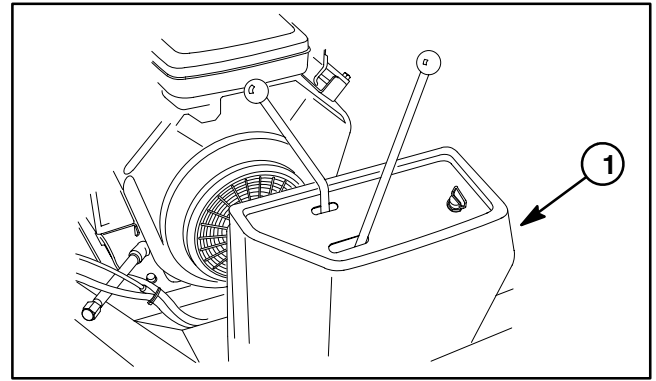

Figure 19
4. Remove control cover from machine (Fig. 19).
6. Install control cover to machine (Fig. 19).